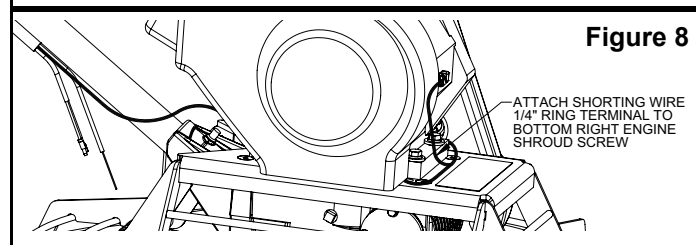

Figure 8
1. Assemble shorting wire (#9) to both screws on safety switch (15). Reset screw height as shown in figure #7.
2. Remove short wire with ring terminal from end of harness (9). Rout harness inside small tube on handle (18) & between engine and belt guard as shown in figure 8.